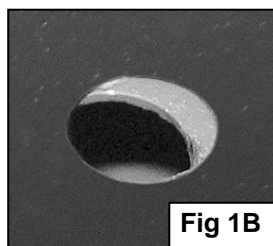

Fig 1B
1. Starting at the front of the driver side of the vehicle, remove the two small hex bolts and the metal clips holding the bottom of the fender to the body, **(Figure 1A)**. **NOTE:** Use a small flat screwdriver to spread the clip apart for easy removal. Due to body panel misalignment from the factory, it may be necessary to open these holes slightly with a 3/8" drill bit, **(Figure 1B)**.